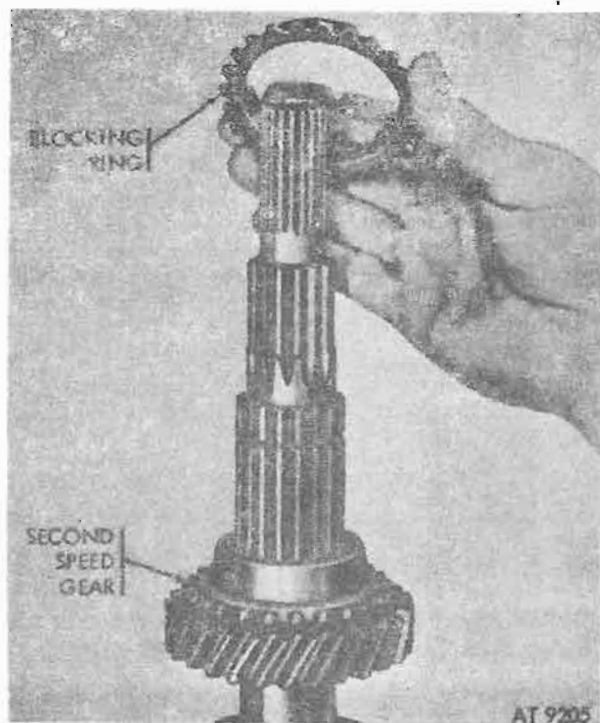

Figure 8-72. Second speed gear synchronizer blocking ring.
f. Remove first and second speed gear synchronizer assembly from shaft gear (fig. 8-72).
f. Position second-speed synchronizer blocking ring on second-speed gear. Refer to figure 8-72.